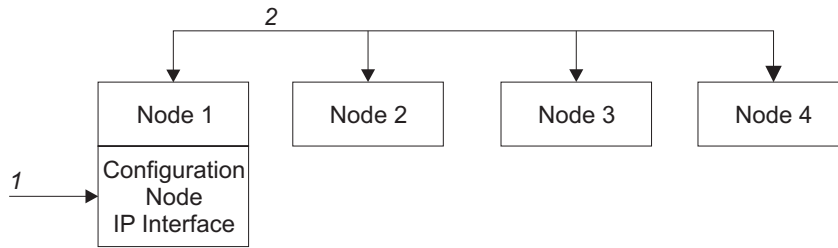

Figure 7. Configuration node
Figure 7 on page 20 shows an example clustered system that contains four nodes. Node 1 has been designated the configuration node. User requests (1) are handled by node 1.